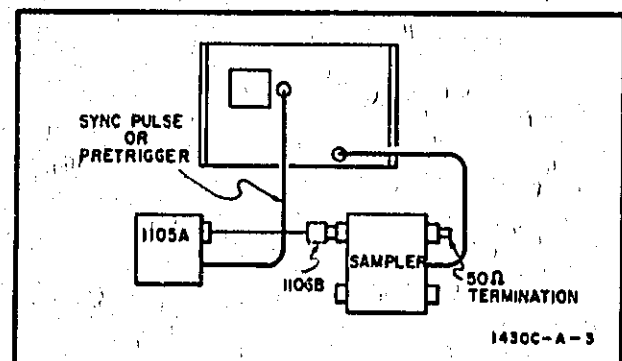

Figure 5-1. Risetime Test Setup
a. Connect Model 1105A/1106B Fast-rise Pulse Generator to channel A input as shown in figure 5-1.